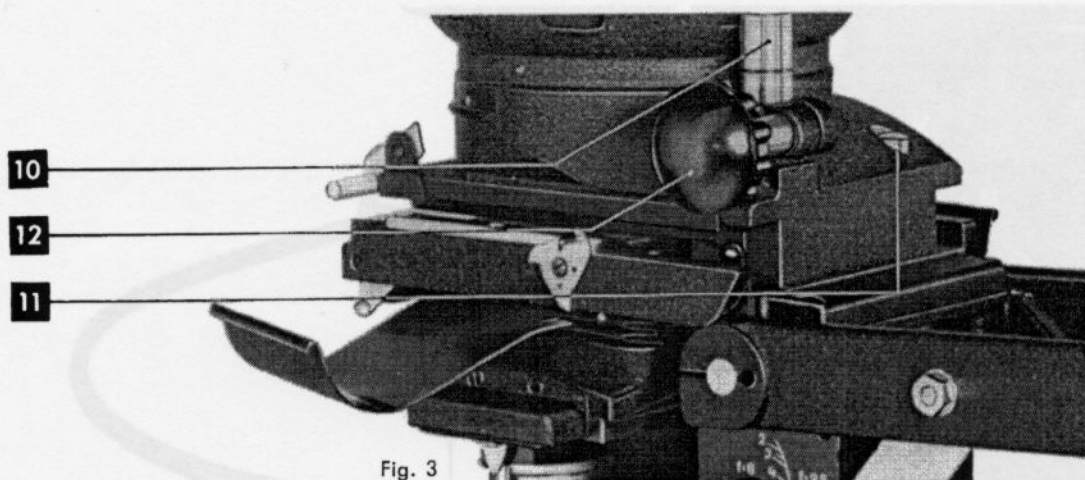

Fig. 3
Push the lamp housing (C) on to the two guide pins (Figs. 3, 10 and 11) against the stop and arrest with locking screw (0/12). Remove the upper lamp hood, and insert the condenser by means of its handle. The handle of the condenser must point towards the column and is hinged back after inserting of the condenser. Screw in opal lamp, and replace upper lamp hood (white mark facing front).
Release the locking screw (O), raise the lamp house to the indicator mark (Fig. 3) on the guide pin (10) and arrest it there. Pull out the strip exposure slide of the test plate (44). Insert copying cassette into film stage as far as possible, engage 95 mm FOCOTAR in locking catch R (this requires a full clockwise turn!); set vertical adapter ring (V) at "Repro" (thereby automatic focusing will operate throughout the entire range of adjustment). The locking catch "R" of the 95 mm FOCOTAR must be aligned in the event of subsequent purchase of the copying cassette. After disengaging the catch (45) push the test plate for the projection of the negative sizes into light path until it is locked. Adjust for size by moving the enlarger head. The fields marked correspond to the following negative sizes: – 54 x 54 mm, 32 x 45 mm (microfilm size), 24 x 36 mm, and 59 x 84 mm for the 6.5 x 9 cm plate with a 3 mm rebate.
Unscrew clamping screw (O), lift lamp housing to the end of the guide pin (10 – Fig. 3) and lock in this position. Place the tilting device for the film holder (52) over the catches on either side of the lamp housing, securing it with the two knurled screws (57).